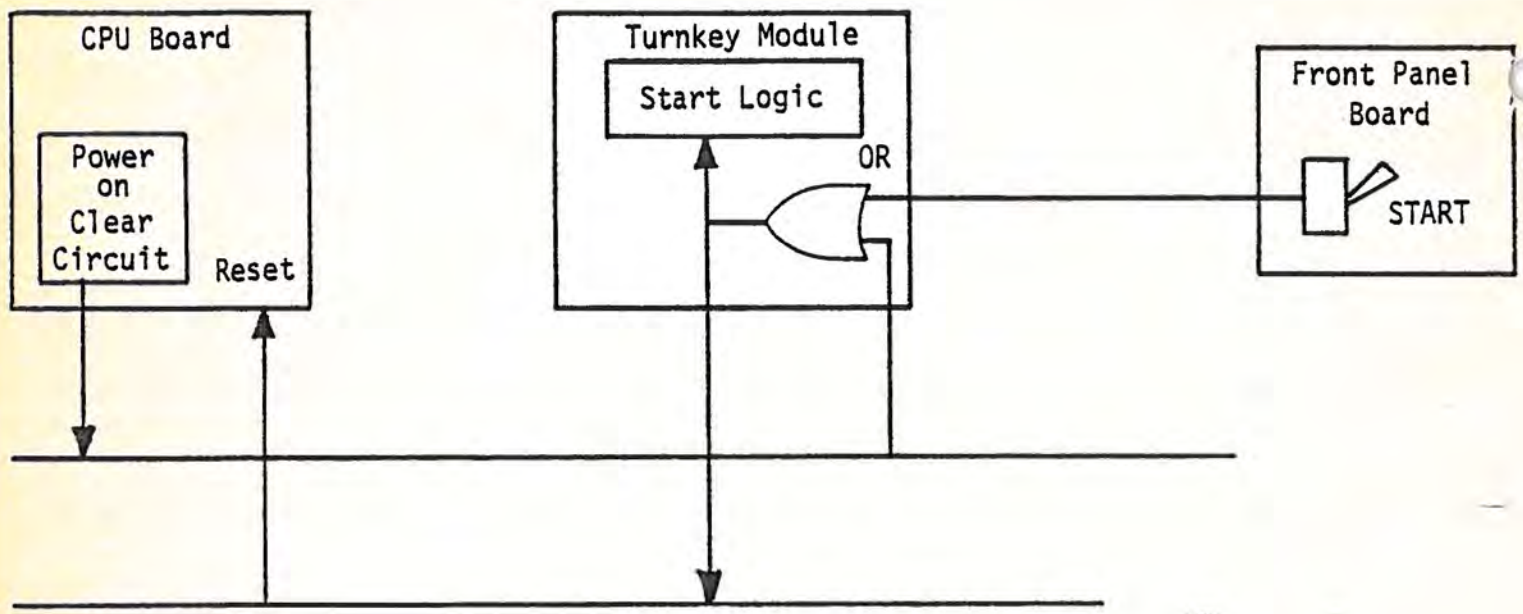
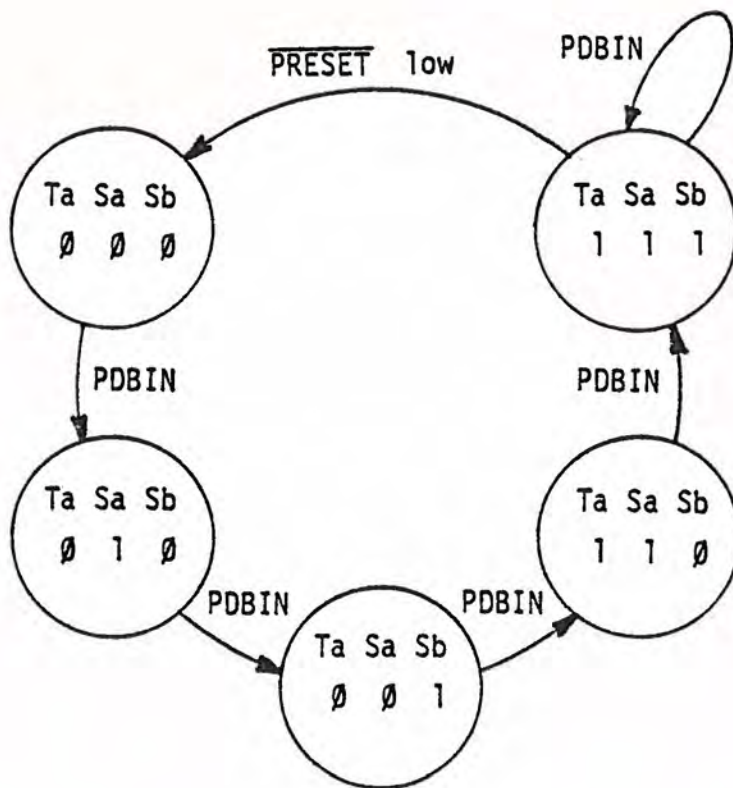

Figure 2-5
Figure 2-6
B. AUTO-START. The AUTO-START logic causes the computer to jump to the address designated by the AUTO-START switches when the power is turned on or the START switch is actuated. Figure 2-5 shows the arrangement of the AUTO-START logic. The switches represent the variable byte in a JMP instruction. The JMP instruction is generated by a multiplexer, ICs M and N, which is controlled by flip-flops Ta, Sa and Sb. The flip-flops are cleared by PRESET, a bus signal derived from POC or generated by the START switch on the front panel. Subsequent PDBIN pulses cause the flip-flops to change from one state to the next as shown in the sequence diagram, Figure 2-6. The pulses generated by the flip-flops cause the multiplexer to choose one of three possible bytes; 303 octal, 000 octal or byte designated by the AUTO-START switches.
Figure 2-6 is the schematic for the power circuits in the 8800b case. The +18 and -18 volt supplies are pre-regulated. The +8 volt supply is not regulated, but it is adjusted by the taps on the secondary of the power transformer. See Section 3-5.